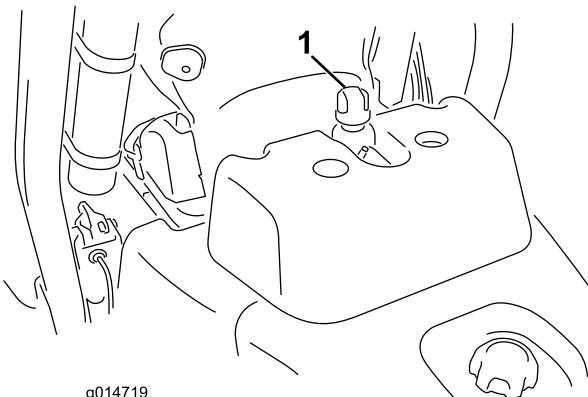

Figure 30
2. Remove the cap from the reservoir (Figure 30).